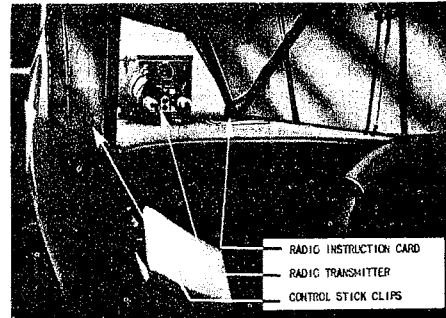

Figure 15—Observer's Desk on the Model L-4A
g. OBSERVER'S DESK. (See figures 15 and 16.)—The observer's desk is located aft of the rear seat. On the model L-4A the radio transmitter, radio instruction card and control stick holder clips are located on the